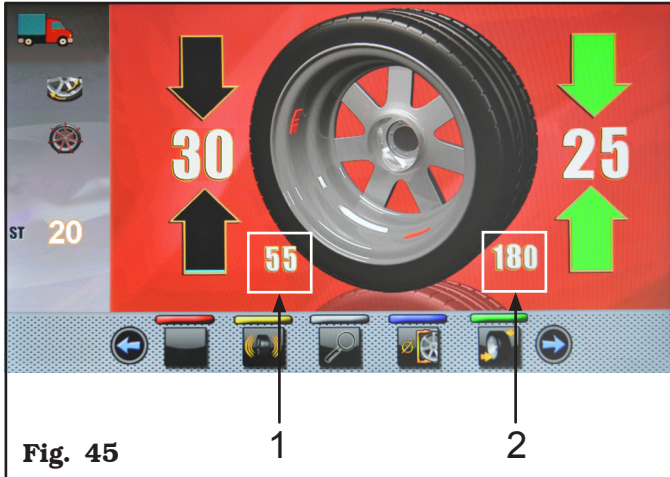

Fig. 45
In this screen page, in addition to the information of the detected unbalance, there are measurements in mm where you must remove the gauge arm (Fig. 45 ref. 1-2) to apply the weights inside the rim.